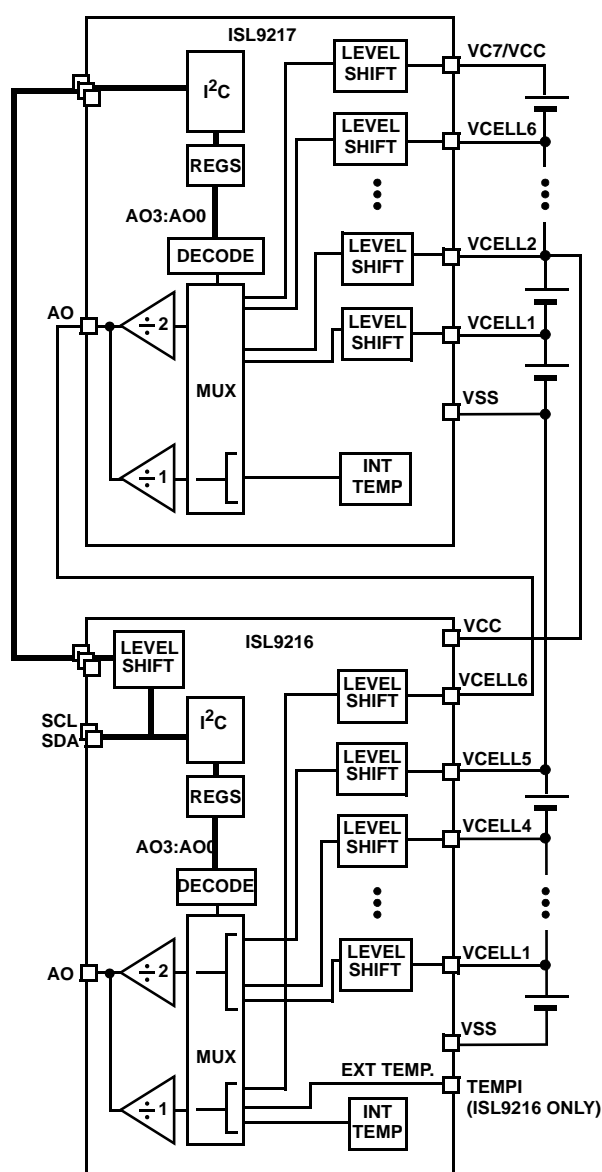

FIGURE 6. ANALOG OUTPUT MONITORING DIAGRAM
The ISL9216 and ISL9217 devices can be used to externally monitor individual battery cell voltages and temperatures. Each quantity can be monitored at the analog output pin (AO) and is selected using the I2C interface. See Figure 6.